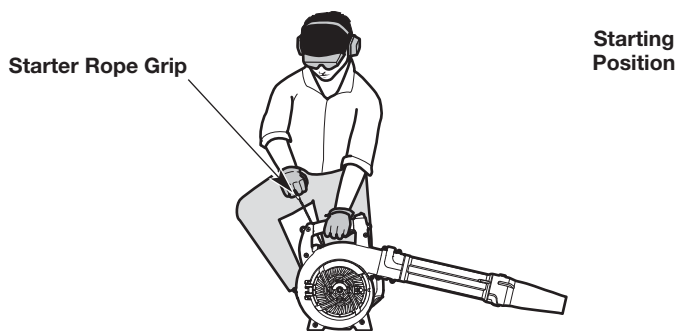

Fig. 8
WARNING: Avoid accidentally starting the unit. To avoid serious injury, the operator and the unit must be in a stable position when pulling the starter rope (Fig. 8).
6. **DO NOT** squeeze the throttle control. Crouch in the starting position (Fig. 8).
7. **DO NOT** squeeze the throttle control. Pull the starter rope with a controlled and steady motion **5 times** (Fig. 8).